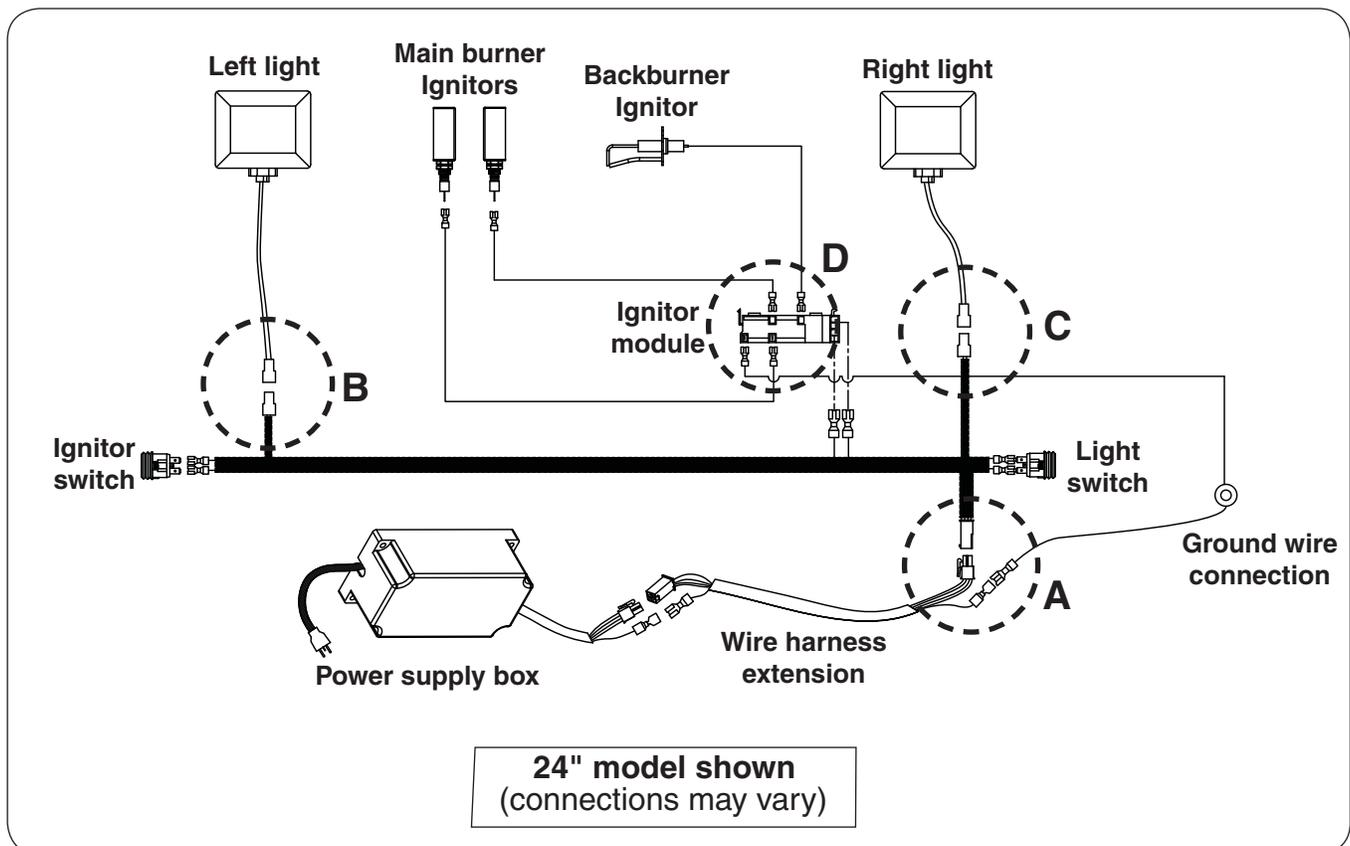

Fig. 35-1 - Wire diagram
2. Disconnect the main wire harness connections (A), the left light connection (B), the right light connection (C), and the ignitor wires (D). It is recommended to temporarily label the wires for reference when reconnecting. See Fig. 35-1. When disconnecting, be sure to pull from the connectors, and not the wires.